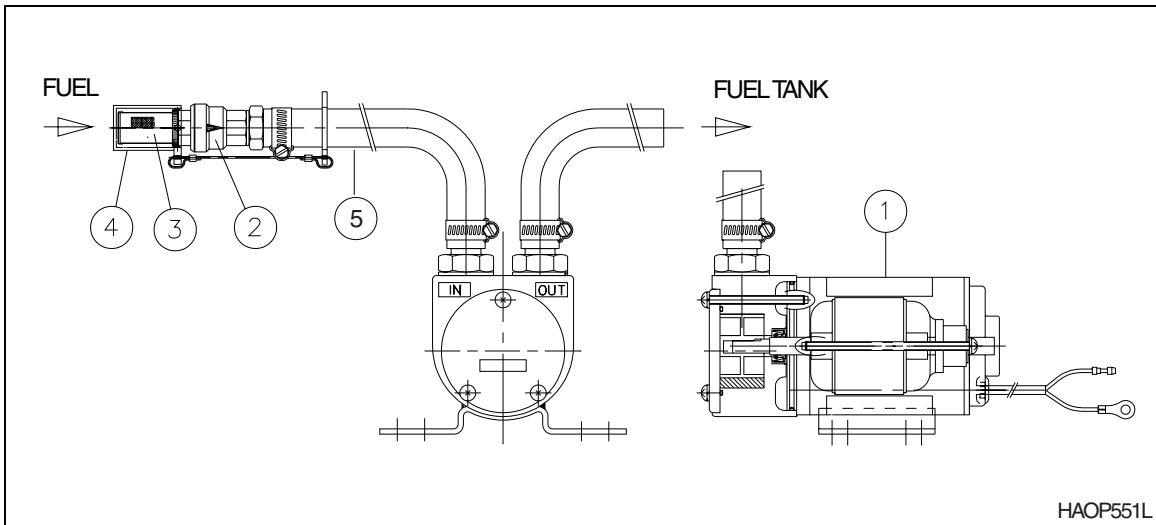

Figure 93
1. Remove strainer cap (4, Figure 93) from strainer (3) on end of inlet hose (5).
NOTE: *Keep strainer cap (4, Figure 93) in a safe location to reseal strainer (3) after refueling is complete.*
2. Insert inlet hose (5, Figure 93) into refueling tank.
5. Lift inlet hose (5, Figure 93) from fueling source and turn switch to "ON" position for 2 - 3 seconds to drain remaining fuel from hose to fuel tank.
6. Install strainer cap (4, Figure 93) on inlet strainer (3) and return hose (5) to storage position.